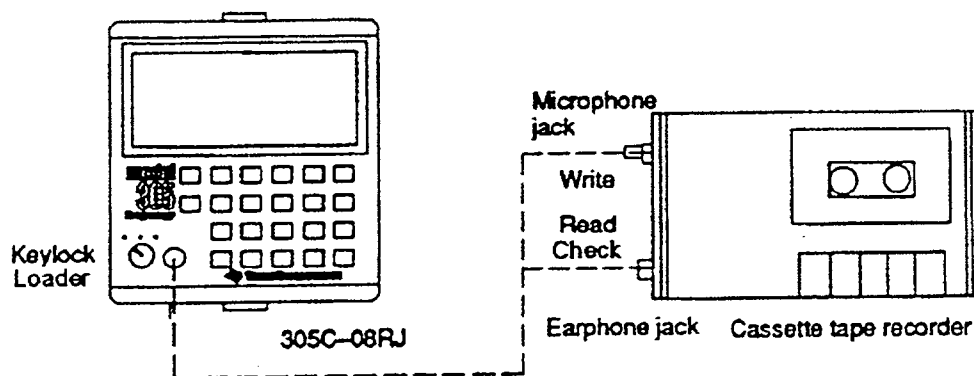

Figure 5-2 Writing From Controller To Tape
3. Connect the Programmer (TAPE port) to the tape recorder (MICROPHONE input) with the audio cable (gray with red tracer). Refer to Figure 5-2.